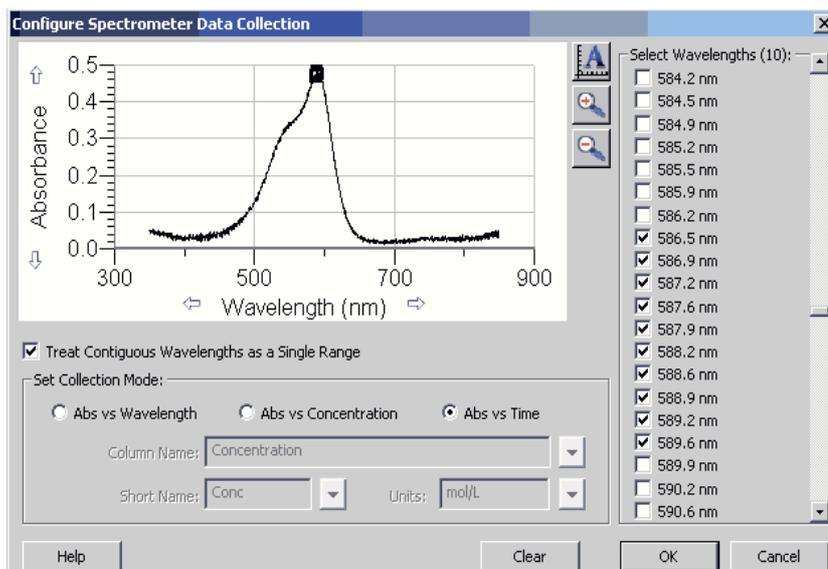

Figure 6. Averaging over several wavelengths to obtain better precision.
2. Click Abs vs. Time (under the Set Collection Mode). Click on Treat Contiguous Wavelengths as a Single Range. The wavelength of maximum absorbance will be automatically selected. First, if you don't want to use this automatic wavelength, press the Clear button. We want to average over a range of wavelengths for better precision, Figure 6. To average over a range of wavelengths, drag the mouse on the spectrum to select the analysis wavelengths. You should select at least 5 wavelengths on both sides of the maximum. In choosing a wavelength range, you should choose a narrow enough range that the absorbance is relatively constant (i.e. a relatively "flat" region near the maximum). Alternatively you can Scroll the Select Wavelengths list box to a wavelength near your absorbance maximum and then click on about 5 wavelengths on both sides of the maximum. Click OK.